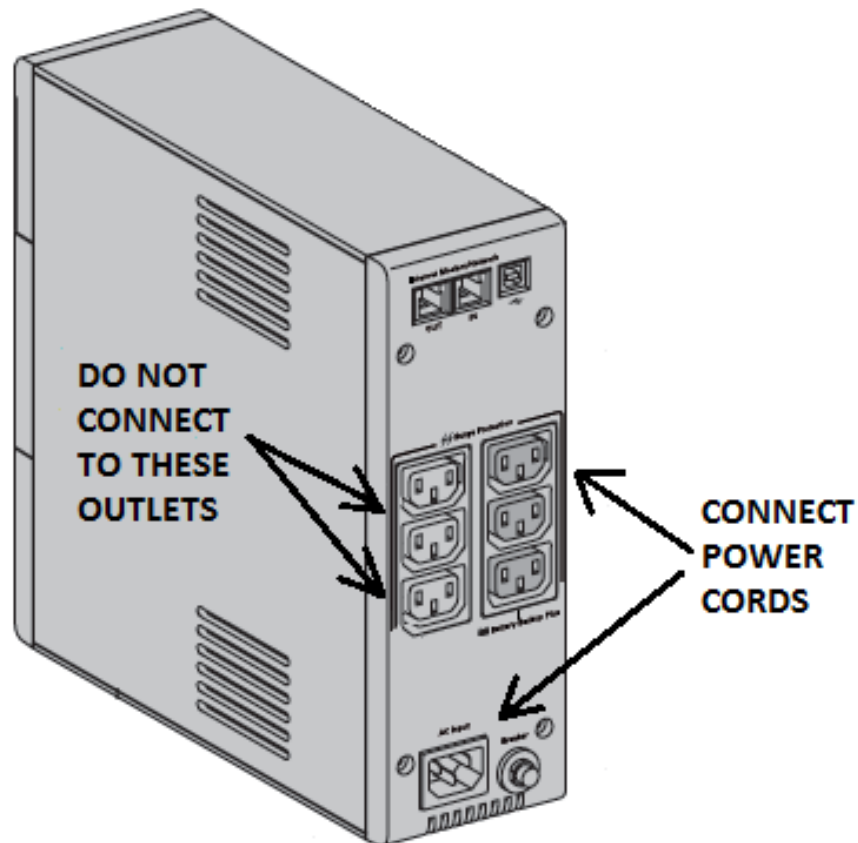

Figure 14 - UPS Power Cable Connections
2. Place the UPS in the CPU control enclosure with the cable connection area on the right side of the enclosure. Connect the power cables to the UPS as shown in Figure 14.